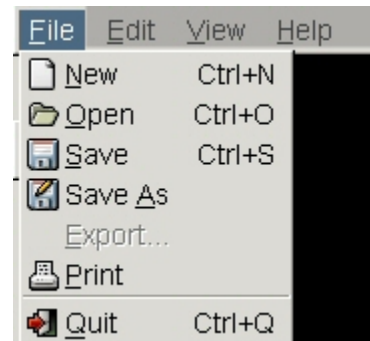

Figure 3.3
**File** – This file (Figure 3.3) has the following options and links to the keyboard shortcuts. In here, you can begin a new scan, open a saved scan, save a scan, or save a scan as a different type of file, export a scan, print a scan, or quit the program.